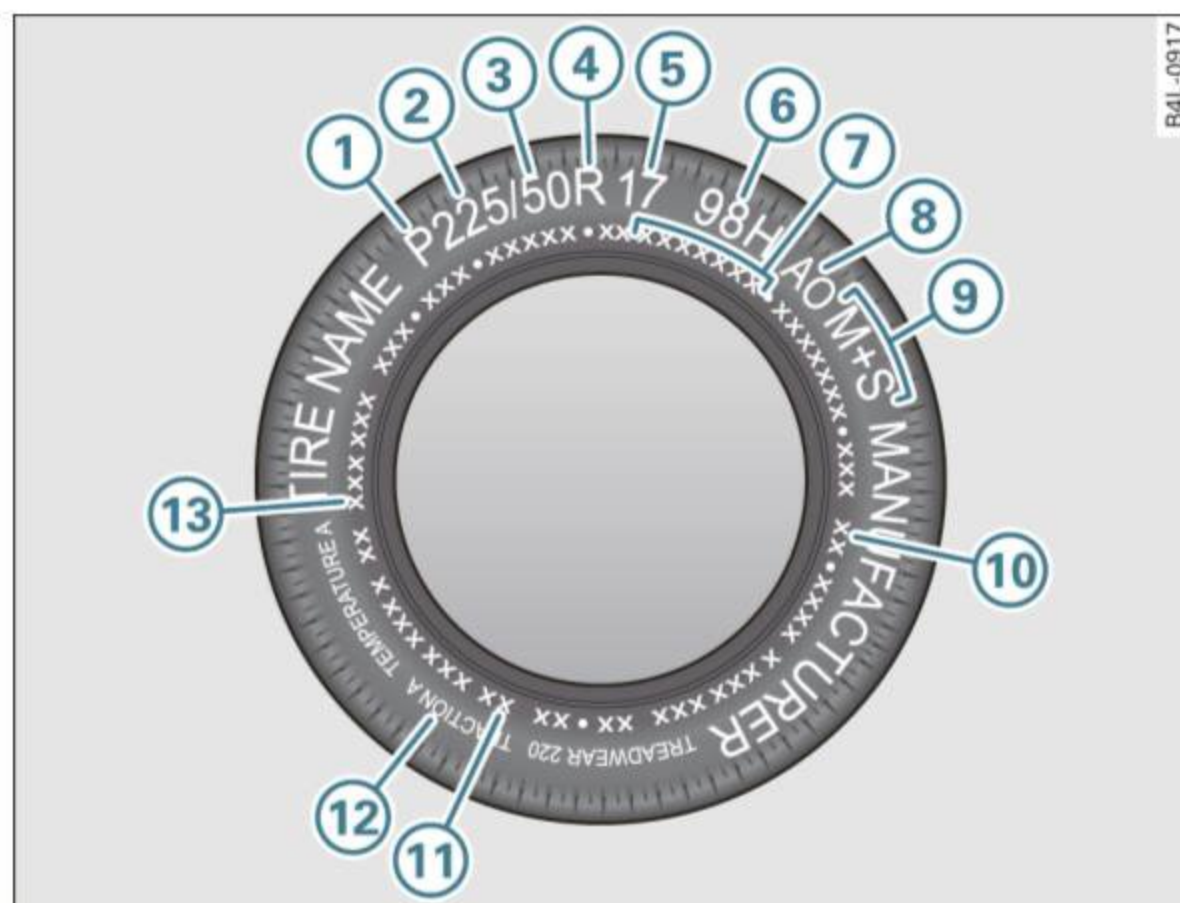

Fig. 223 Tire specification codes on the sidewall of a tire
- Check the tire sidewall (\Rightarrow page 299, fig. 223) to determine the designated load rating for a specific tire. ■
Federal law requires tire manufacturers to place standardized information on the sidewall of all tires ⇒ *page 299*, fig. 223. This information identifies and describes the fundamental characteristics, the quality grade of the tire and also provides a tire identification number for safety standard certification and in case of a recall.
Quality grades can be found where applicable on the tire side wall between tread shoulder and maximum section width ⇒ *page 299*, fig. 223.